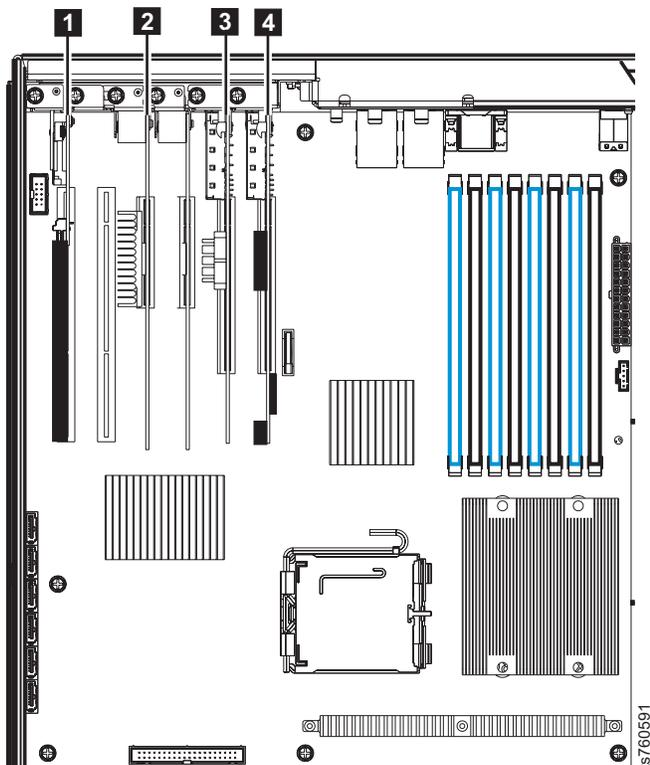

Figure 50. PCI Cards
- Figure 50 on page 74 displays the locations of the PCI cards. The fibre channel card is placed in PCI slot marked **3**.